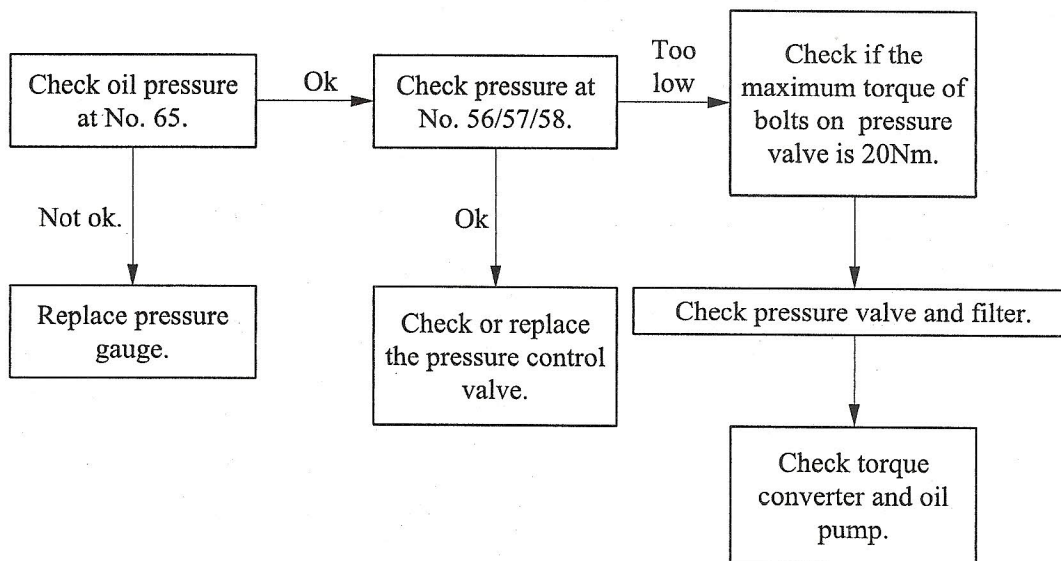

Fig. 06-10 Analysis process chart for the problem that oil pressure at all gear range is low
2.7 Problems Analysis Process Charts for the Main Components (See Fig.06-10---06-17)